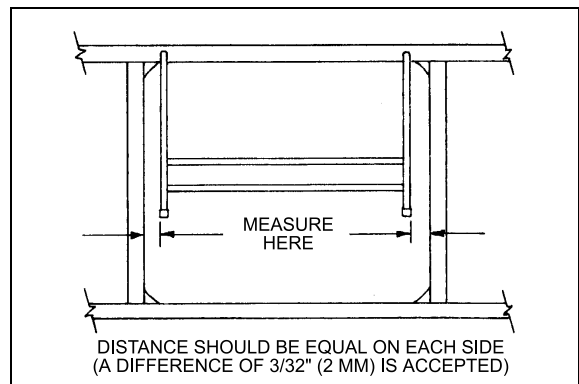
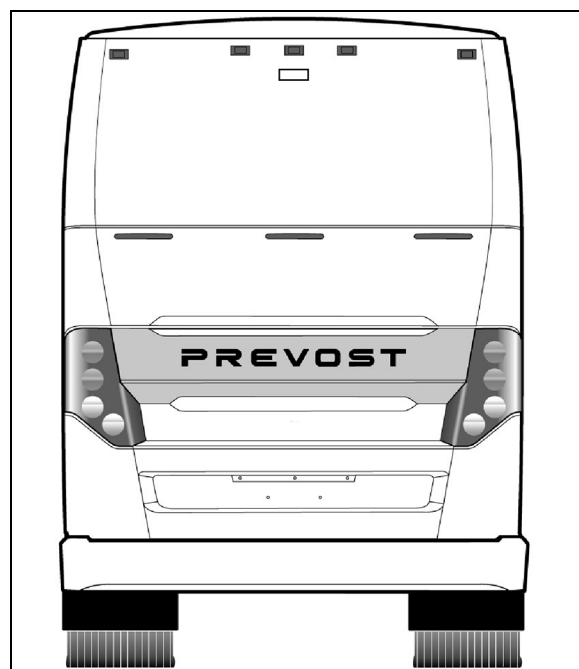

FIGURE 80: PANTOGRAPH DOOR ADJUSTMENT 18063
FIGURE 81: ENGINE COMPARTMENT DOOR 18747
Measure distance between a pantograph arm end and a straight edge resting on structure. Repeat procedure for the other arm. The distance on each side should be equal. If not, bend appropriate arm until desired measure is obtained (Figure 80 & Figure 81).
5. When the door is straight, remove the 2x4's and check door operation and fit. A difference of $3/32$ " (2mm) between both sides is accepted (Figure 81).